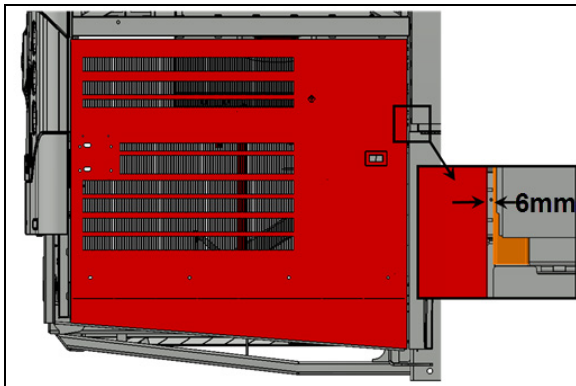

FIGURE 114
5. Check the gap between the door and the adjacent panel at the level of the upper attachment point of the arm on the door. The gap should be $1/4$ " (6 mm) (FIGURE 114).